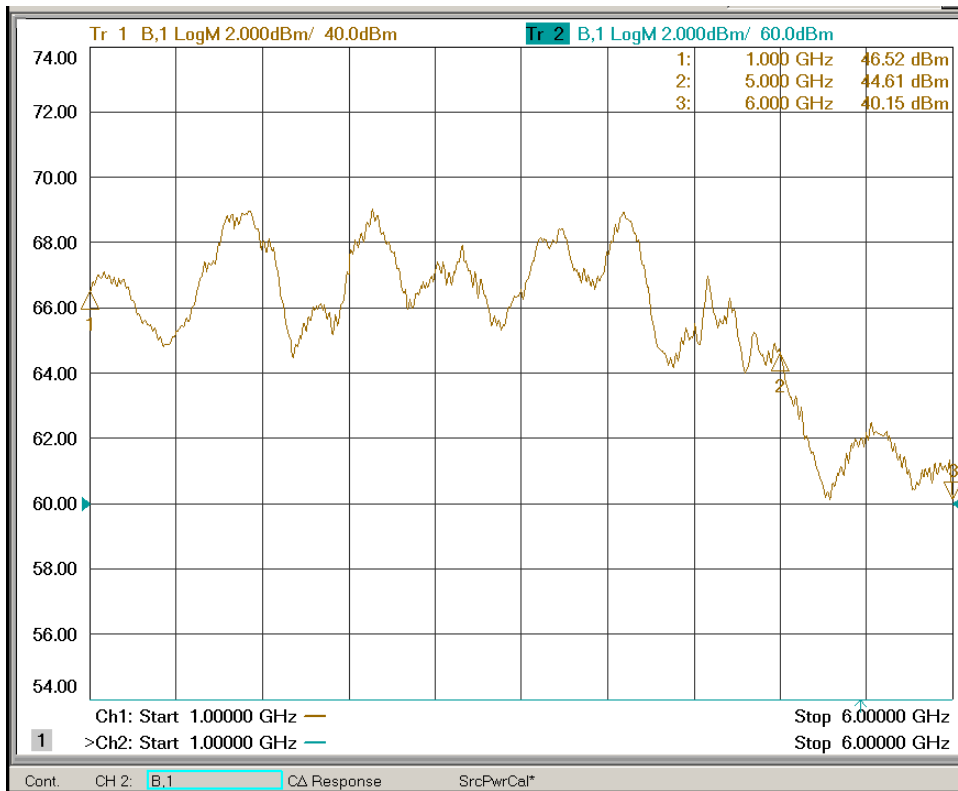
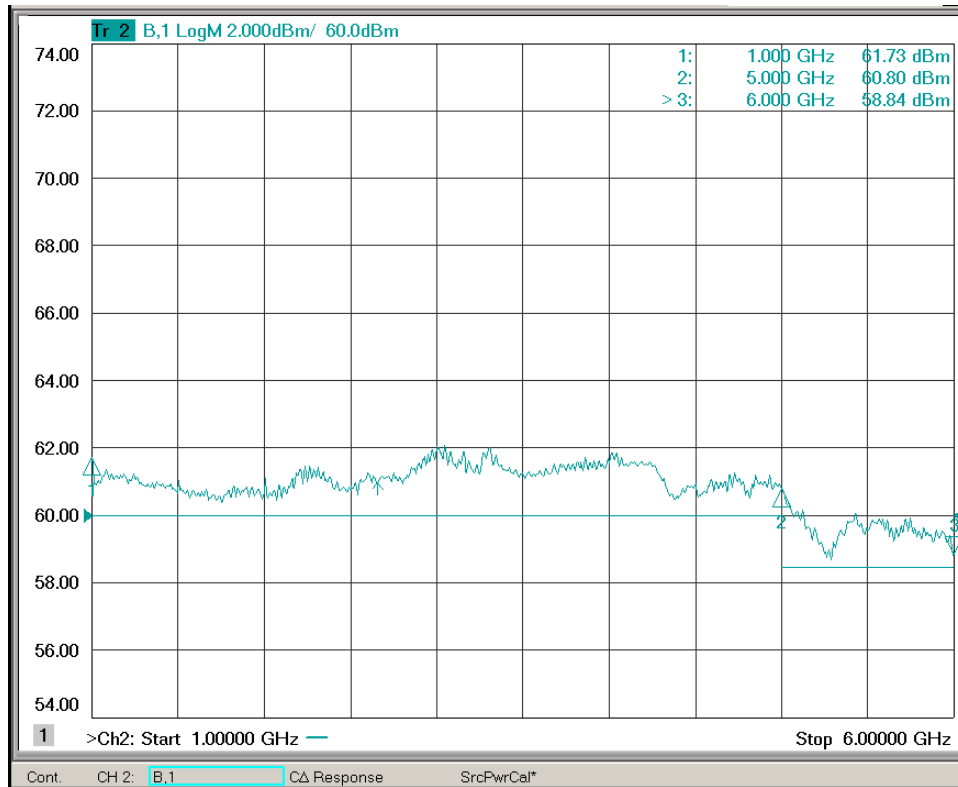

Figure 4-1. Typical Response at -20 dBm Input
Figure 4-2. Typical Response at 0 dBm Input
- The Model 1000S1G6C's typical gain response at -20 dBm input and 0 dBm input is shown in Figures 4-1 and Figure 4-2. The actual gain may vary considerably from that shown in these figures but should be ≥ 63 dBm at -20 dBm input and ≥ 60 dBm from 1.0-5.0 GHz and ≥ 58.5 dBm from 5.0-6.0 GHz.